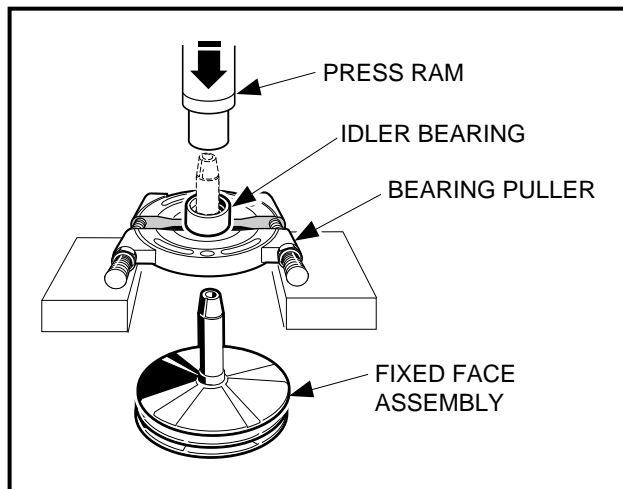

Figure 17-10 Remove Idler Bearing
- If necessary, remove idler bearing. Use a press to remove the bearing (**Figure 17-10, Page 17-9**). See following **NOTE**.